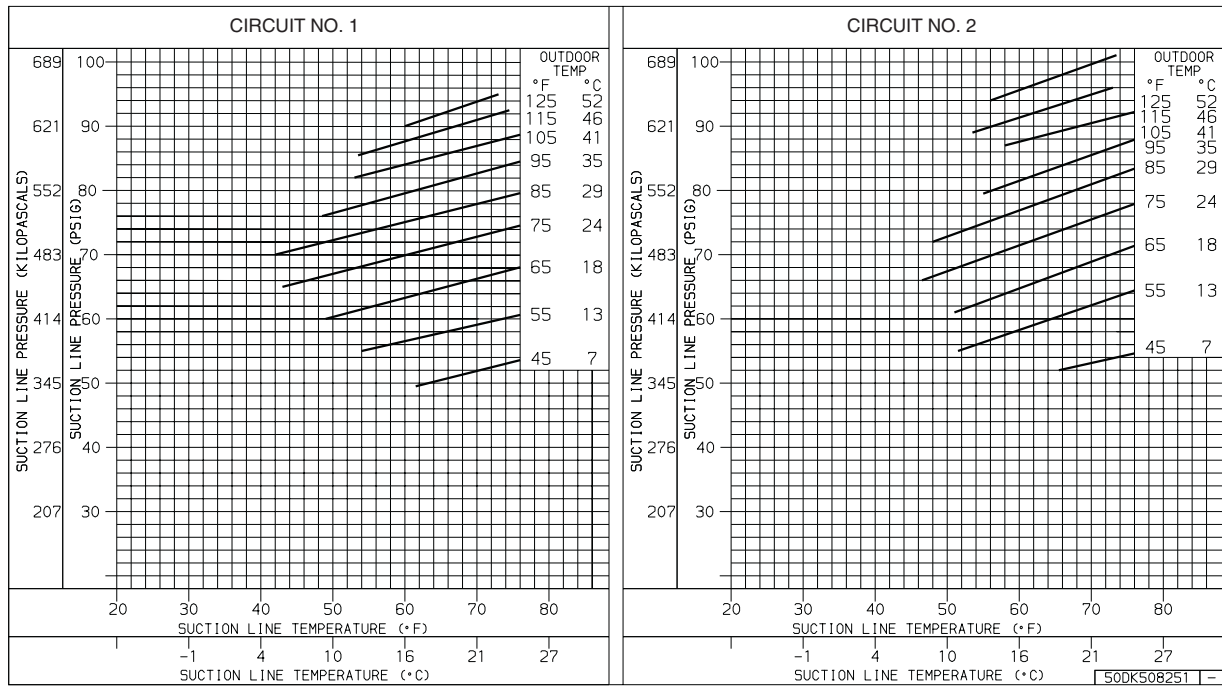

Fig. 51 — Cooling Charging Chart; 48TJ012
4. Disconnect gas piping at unit gas valve using backup wrench on the flats of the valve body where the gas pipe enters the gas valve. See Fig. 51.